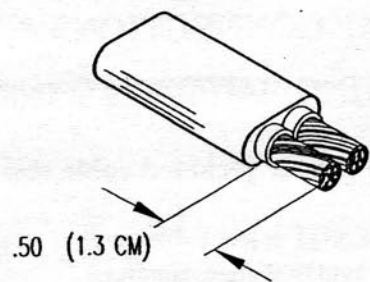

FIGURE 5
e) Remove tape and cut the lead wires back leaving about .50 in. (1.3 cm) exposed. Strip the inner conductor jacket .50 in. (1.3 cm) (Fig. 5).